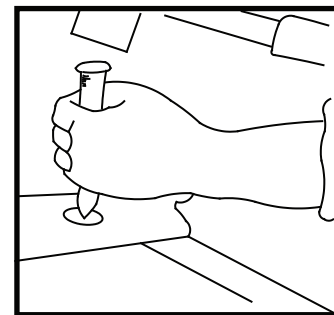
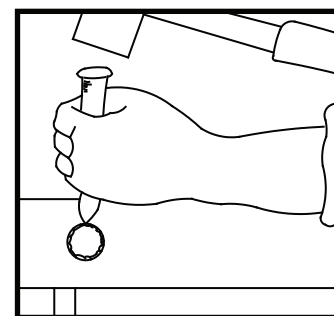

Fig. 3
Fig. 4
3. Place the sink in well supported position. Take a sharp ended nail punch placing the point onto the mark made. Use a hammer strike firmly the top of the punch until the point has been broken through to the under side of the pre-punched hole (Fig. 3) Gradually enlarge the tap hole by carefully chipping away the remaining material until you have remove the entire pre-punched hole (Fig. 4). You should then find the tap mixer you intended to use, will fit the hole.